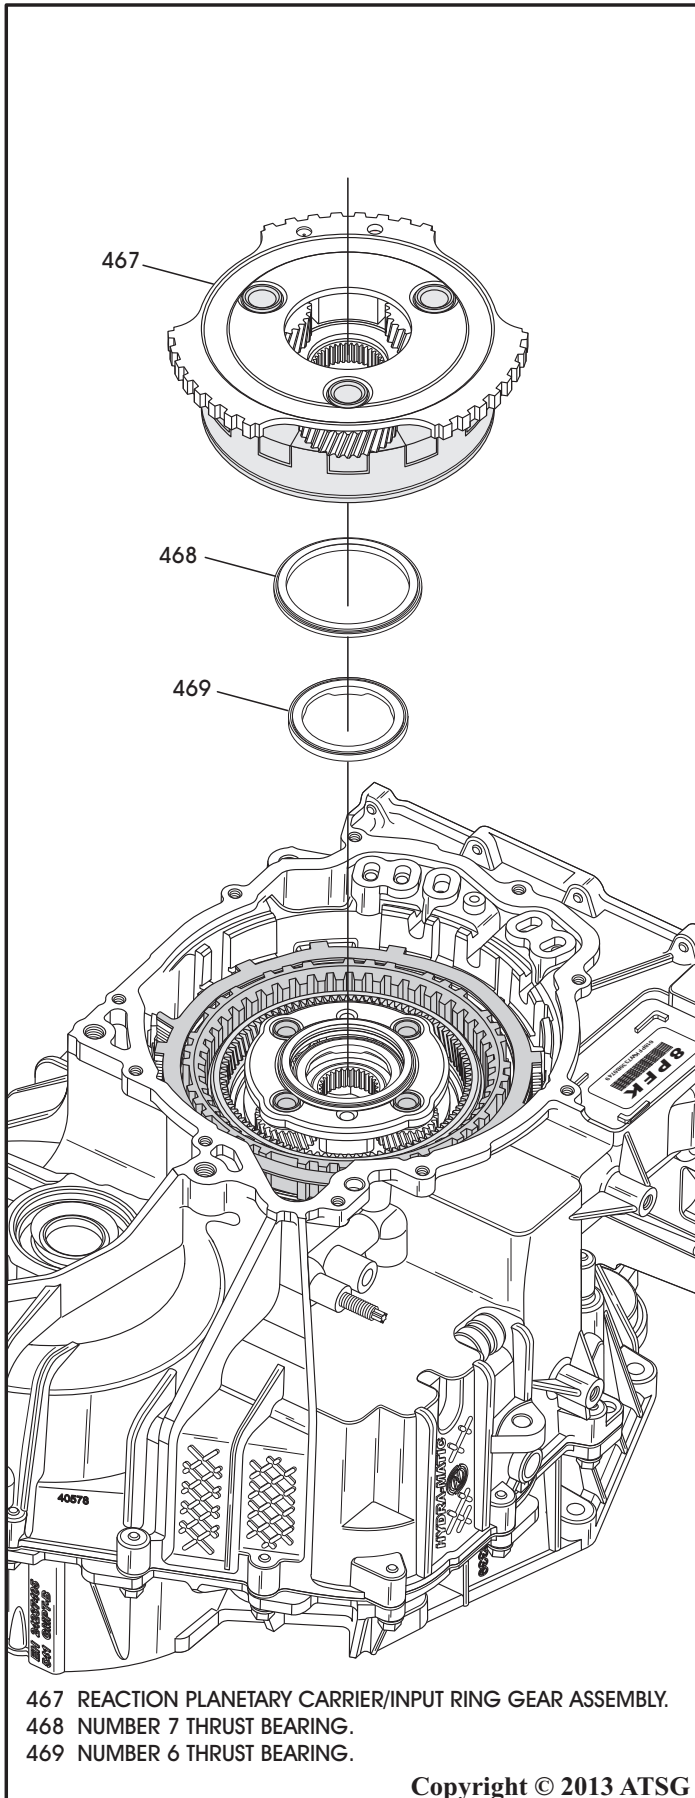

Figure 59
31. Remove the reaction planetary carrier assembly, as shown in Figure 59.
32. Remove the number 7 thrust bearing, as shown in Figure 59.
33. Remove the number 6 thrust bearing, as shown in Figure 59.